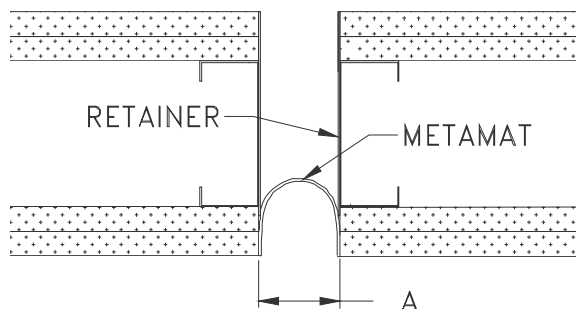

Figure 2
3. Secure the MetaMat™ to the opposite side of the joint using the base member of the applicable expansion joint system. Anchors should be spaced 2" (51mm) from the end of the MetaMat™, with each successive anchor spaced at 10" (254mm) O.C. (Fig. 2)
**NOTE:** THE DRAPE OF THE METAMAT LAYER RIVETED TO THE RETAINERS SHOULD BE TOWARD THE INSTALLER AS SHOWN IN FIGURE 2.
**STEP 1.** Select the layer of the MetaMat fire barrier which is riveted to galvanized retainers. Place this layer into its installed position so that it spans the joint and so that the retainers are in contact with the joint interface surfaces of the wall (Figure 2).